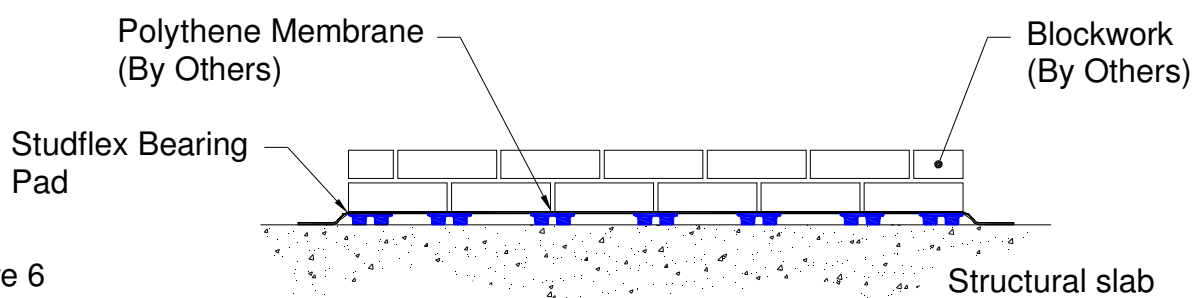

Figure 6
- 8) Studflex bearing pad plates must be laid butt to butt. A strip of polythene should be laid over the Studflex bearing pads prior to laying blockwork walls to prevent ingress of mortar and debris during construction. Blockwork walls and mortar joints should be allowed to cure for two courses only before proceeding with further courses (See Figure 6).